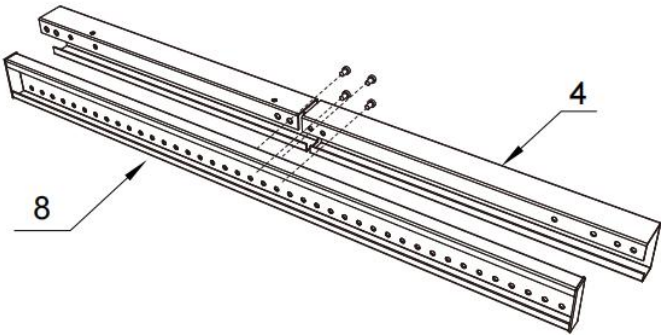

Figure 3
4. Secure with 4pcs M5*10 Cross head screws(⑧) through into the holes in the Corner Brackets and Center Sections. (Figure 3)